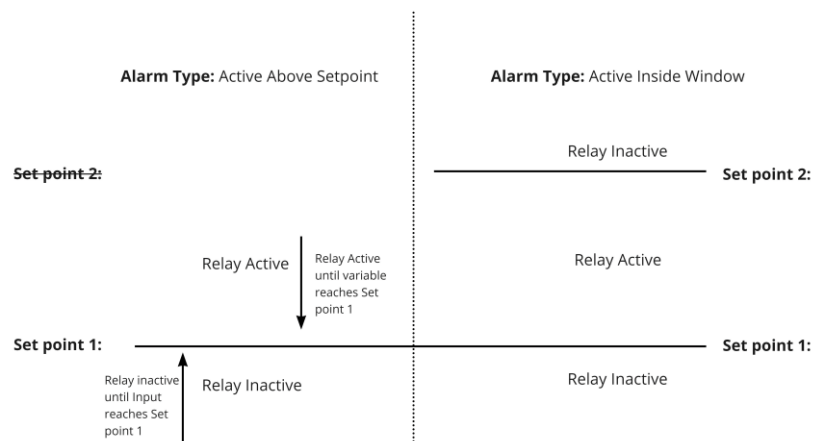

Figure 73: Alarm Type Function Diagram
- Alarm Type – The mode in which the alarm will function (Samples shown in Figure 73)